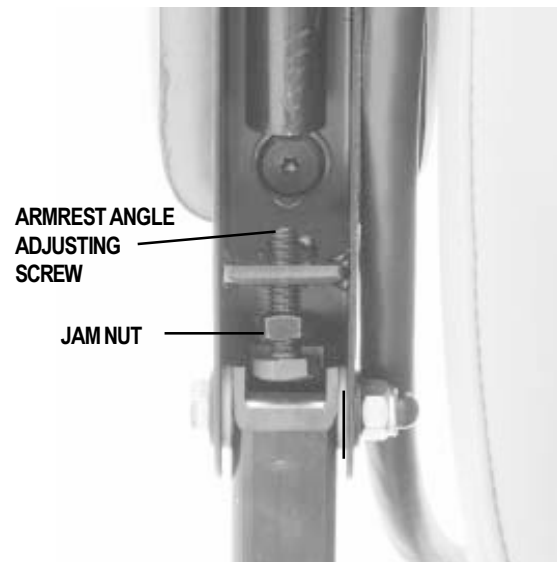

Figure 15. Armrest Angle Adjustment
1. Lift the armrest straight up so that it is perpendicular to the floor. See figure 15.